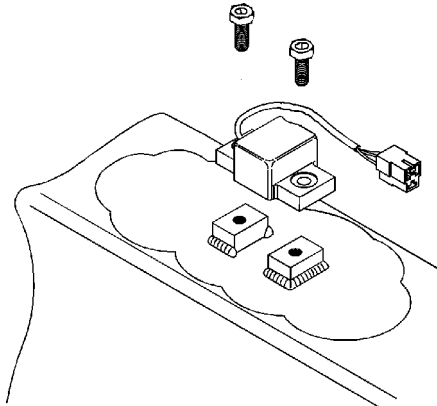

Figure 8 Mounting the sensor
7. Degrease the mounting blocks and fasten the sensor using the M8 Socket Caphead screws supplied, with the cable facing back towards the lift arm pivot (fig. 8). Torque the screws to 35 Nm.